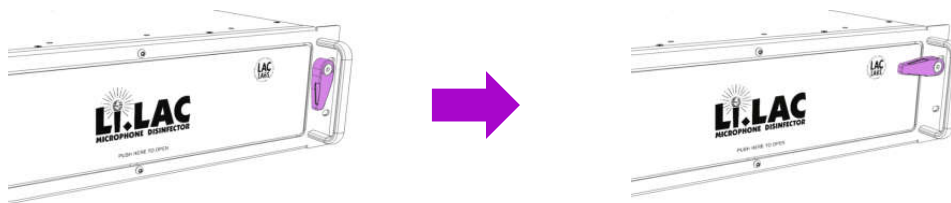

Fig. 6
3. Turn latch 90° clockwise to lock the drawer. (Fig. 6)